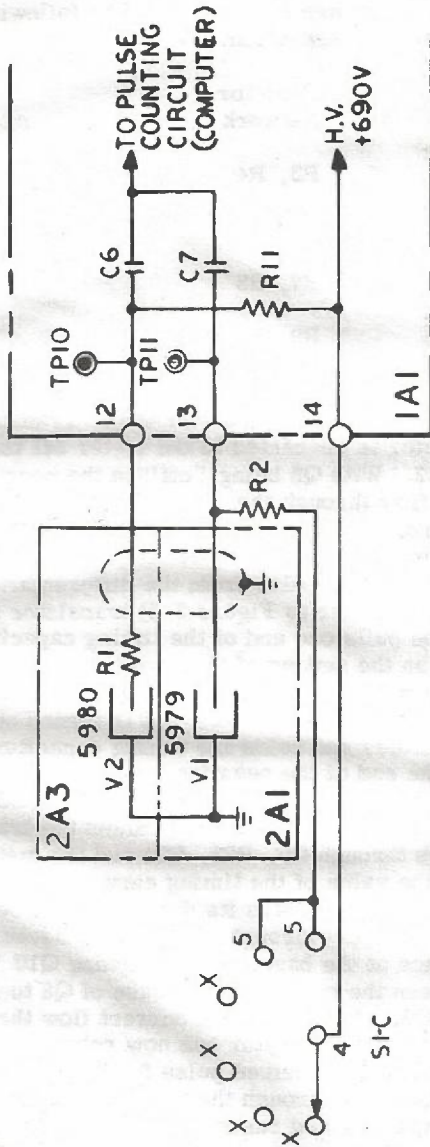

Figure 3-3. Radiation Detectors
b. Radiation Detectors (Refer to Figure 3-3).